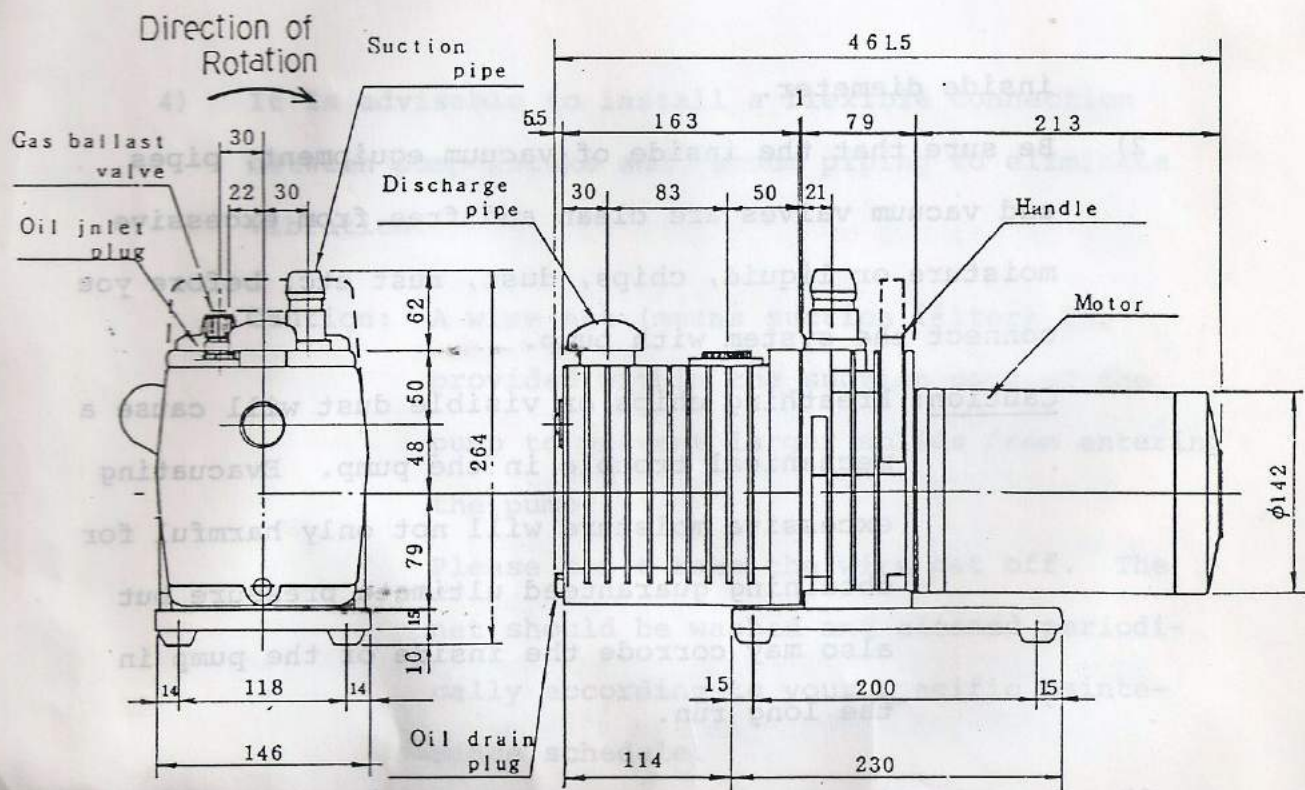

Fig. 1
- 1) Remove the discharge pipe (see Fig. 1) and make sure that oil drain plug is closed.